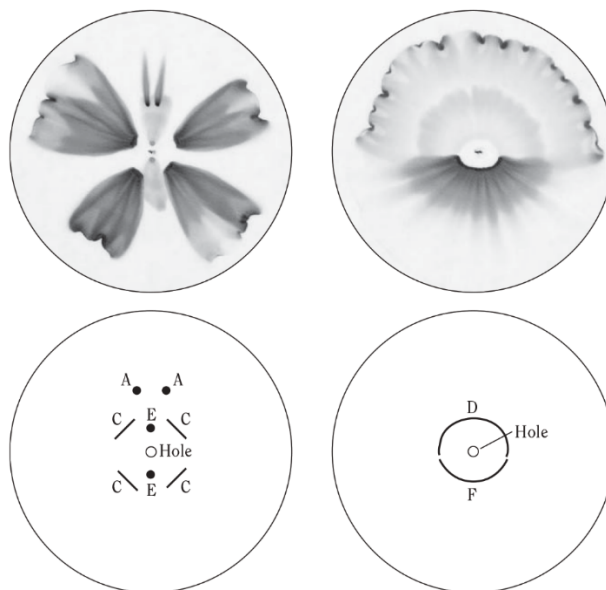

Figure 5.
12. Different designs and patterns can be made with radial chromatography. For example, see Figure 5 for two versions made with a variety of markers and pens.
13. The different letters, in Figure 5, correspond to different markers. Ink formulations are constantly changing, use what you discovered in Part A to decide what markers and pens to use to make your own artwork.
- Starting at least 5 mm from the center hole, place a small but concentrated spot of ink from a water soluble marker or pen onto the paper. The “spot” may be a dot, a wedge, a short line, an arc, etc. See Figure 5 for an example.